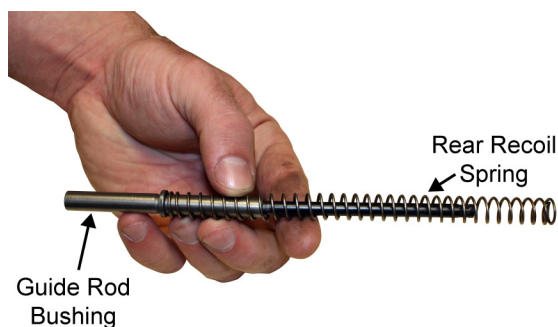

Figure 7. Install the Rear Recoil Spring.
2. Install the rear recoil spring onto the guide rod bushing. Refer to Figure 7.